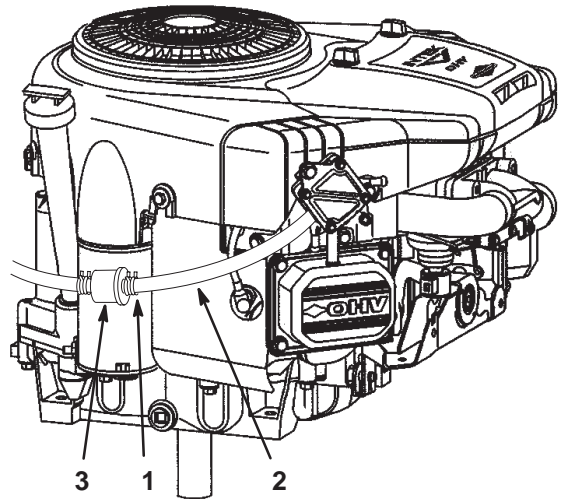

Figure 31
3. Squeeze the ends of the hose clamp together and slide it up the fuel line toward the fuel tank (Fig. 31).
4. Pull the fuel line off of the filter (Fig. 31) and allow gasoline to drain into a gas can or drain pan.
The best time to replace the fuel filter (Fig. 31) is when the fuel tank is empty. Never install a dirty filter if it is removed from the fuel line.
4. Squeeze the ends of the hose clamps together and slide them away from the filter (Fig. 31).